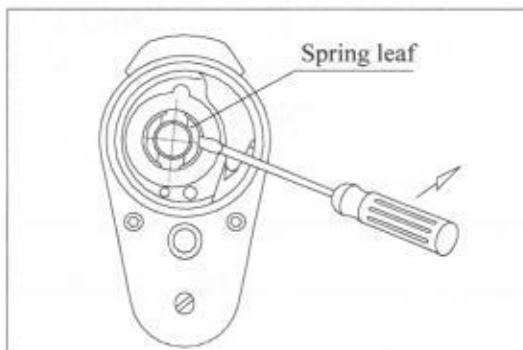

Fig 6
- Prizing up the spring leaf with screwdriver to increase the bobbin thread tension.(Fig 6)